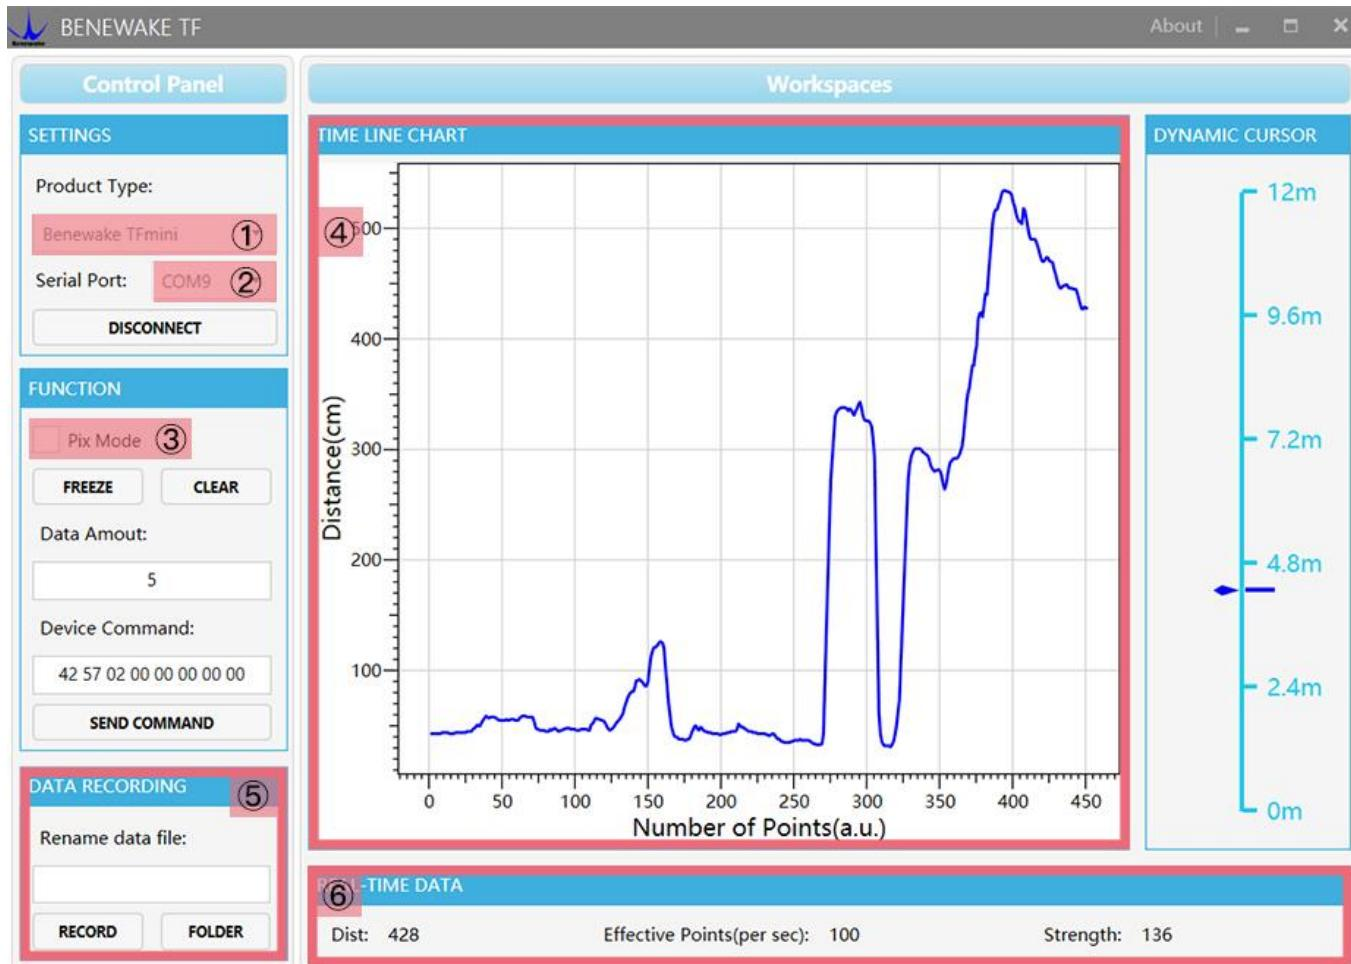

Figure 7 PC software Interface and Display
③ Connection to the PC software and data output
Open the PC software and select “① Benewake TFmini” and select automatically recognized occupied serial port (here it is “② COM9”), as shown in Figure 7